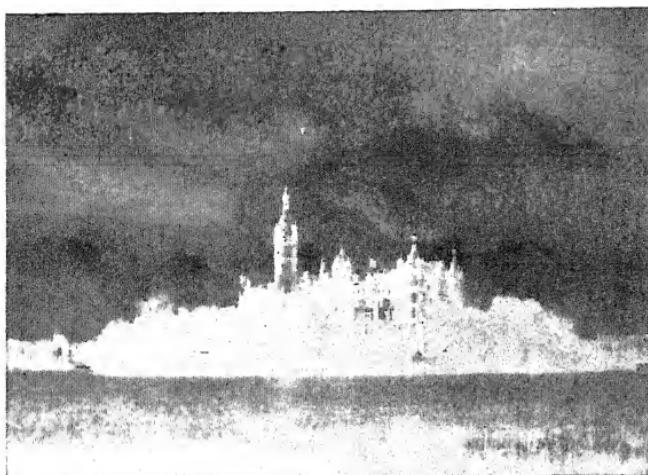

Fig. 46.
*Under-developed*, if the lights appear insufficiently covered, and the contrast between half-tones and shadows is so slight that the whole appears flat. This is called a thin negative (Fig. 46). In this case details, even in the shadows, are clearly visible, but are very weak. The covering of the high lights is, however, absent ; they appear grey rather than black, making the whole negative seem to lack strength. A thin negative may be improved by subsequent treatment with uranium.